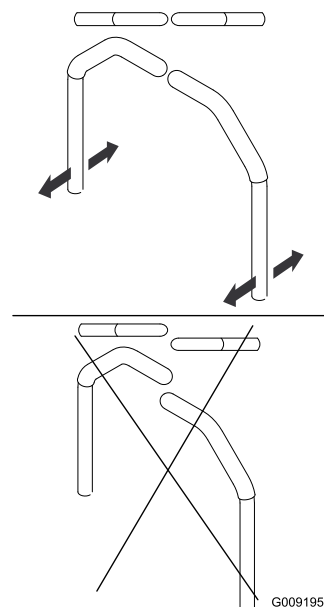

Figure 85
4. Align the front-to-rear position of the levers by bringing the levers together to the neutral position and sliding them until they are aligned; then tighten the bolts (Figure 85).